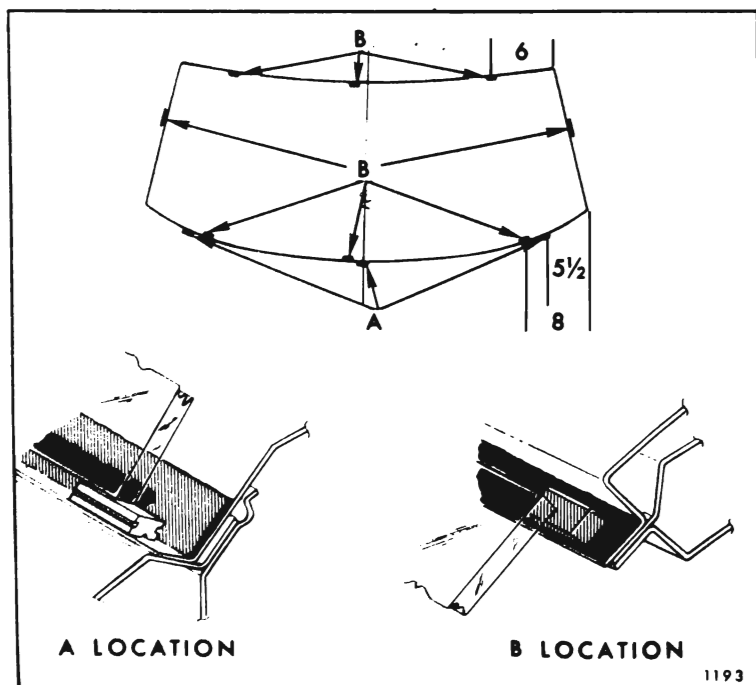

Fig. 3-8—Glass Spacers
4. Using black weatherstrip adhesive, cement three rubber spaces to lower windshield opening at location "A", Figure 3-8.
3. Using black weatherstrip adhesive cement three rubber spacers (#4421823 or equivalent) to upper windshield flange and two rubber spacers (#4421823 or equivalent) to windshield pillars at rabbet (View "B", Fig. 3-8). Cement three rubber spacers (#4459429 or equivalent) to lower windshield flange (View "B", Fig. 3-8). Cement three rubber spacers (#4871330 or equivalent) to lower windshield opening (View "A", Fig. 3-8).